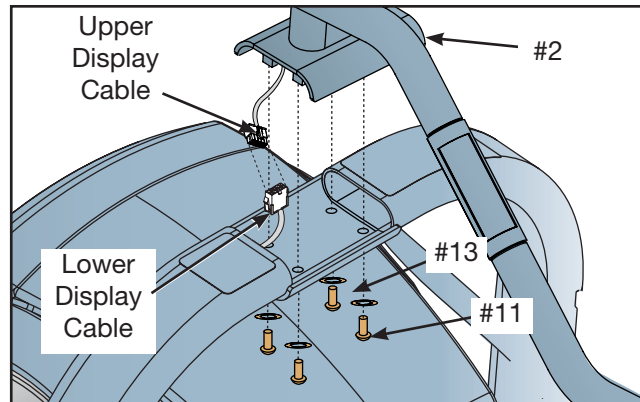

Figure 4
- B. Locate the upper display cable and plug it into the lower display cable in the main frame assembly. See Figure 4.
- C. Place the console/handle assembly (#2) in the correct position on the main frame assembly. See Figure 4.
- D. Attach the console/handle assembly using the four washers (#13) and four screws .375-16 x 1.50 (#11) as shown in Figure 4. **NOTE:** Do not securely fasten screws at this time.